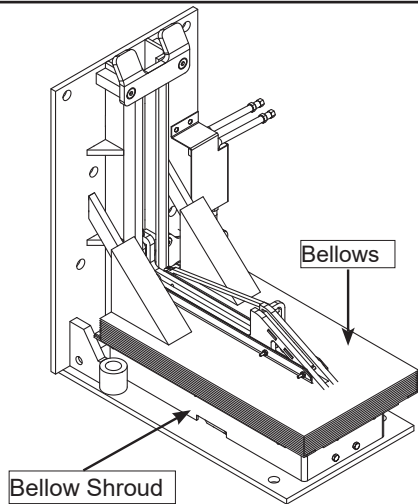
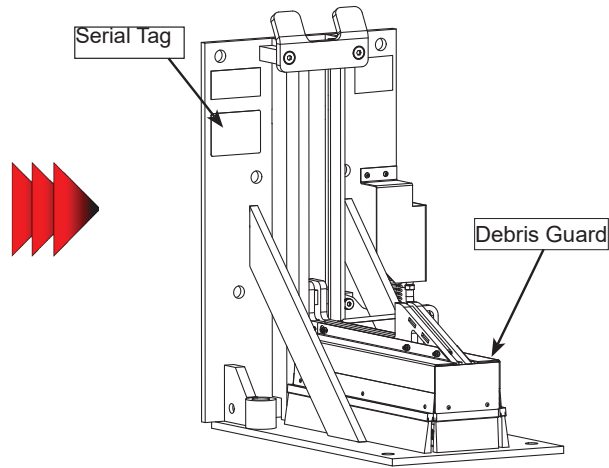

Fig. 1
Fig. 2
Stop-style restraints from Poweramp, DLM and McGuire are now equipped with a debris guard, (Fig. 2) instead of pleated bellows, (Fig. 1). Stop restraints from early 2018-forward, are compatible with the debris guard. Use the lip deflector as an indication of compatibility, if manufacture date is unknown.
8. Apply the decals included with the kit, (See Figures 2 and 10).